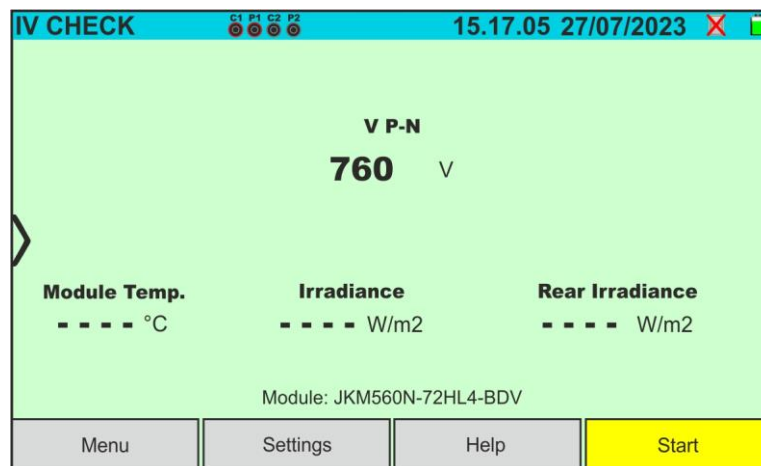

Fig. 48: Initial IVCK test screen without remote unit on Bifacial modules
5. In the case of **Bifacial** modules, the Fig. 48 screen is present on the display. The following parameters are shown: